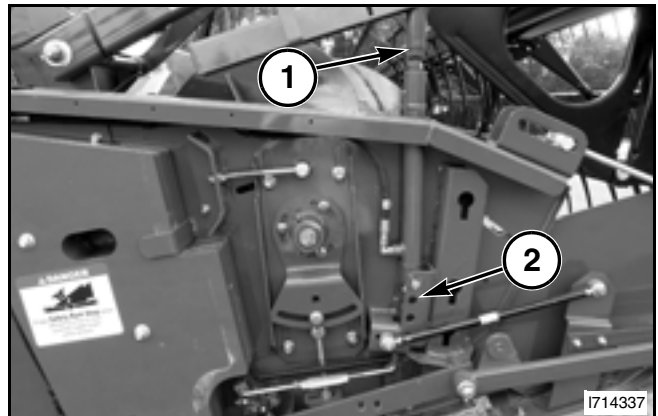

FIG. 66
FIG. 66: Loosen the jam nuts (1) on the cylinder rod and turn the cylinder rod as required to set the reel finger tips to 38 mm (1-1/2 in) minimum clearance with the sickle. Check this clearance over the full length of the reel and make sure both ends are adjusted evenly. Tighten the jam nuts.